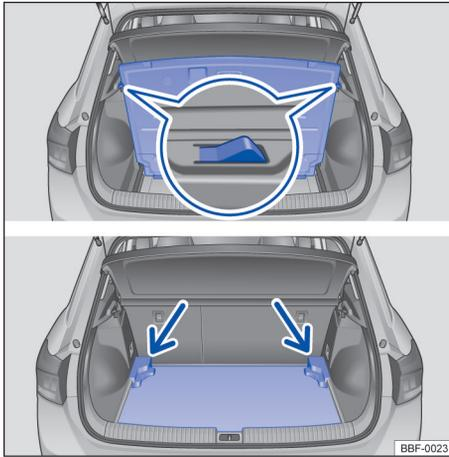

Fig. 146 In the luggage compartment: adjust the luggage compartment floor height.
- Lift the luggage compartment floor cover and pull it back removing it from the luggage compartment side guides → Fig. 146 [A].
- Lift the luggage compartment floor and push down underneath the guide → Fig. 146 [B] (arrows).